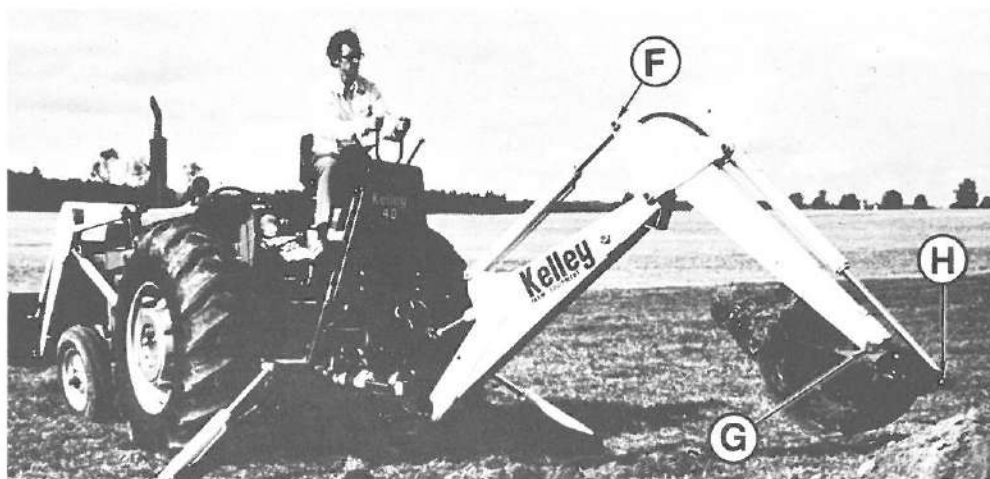

Figure 5
15. Remove the pin from location F of Figure 5.
28. Remove the pin on the dipper stick assembly (G of Figure 5).
29. Position the dipper stick and bucket cylinder in order to mount the bucket. Mount the bucket at points G and H of Figure 5. Secure the bucket pins with the 3/8" locking bolts, lockwashers and nuts.